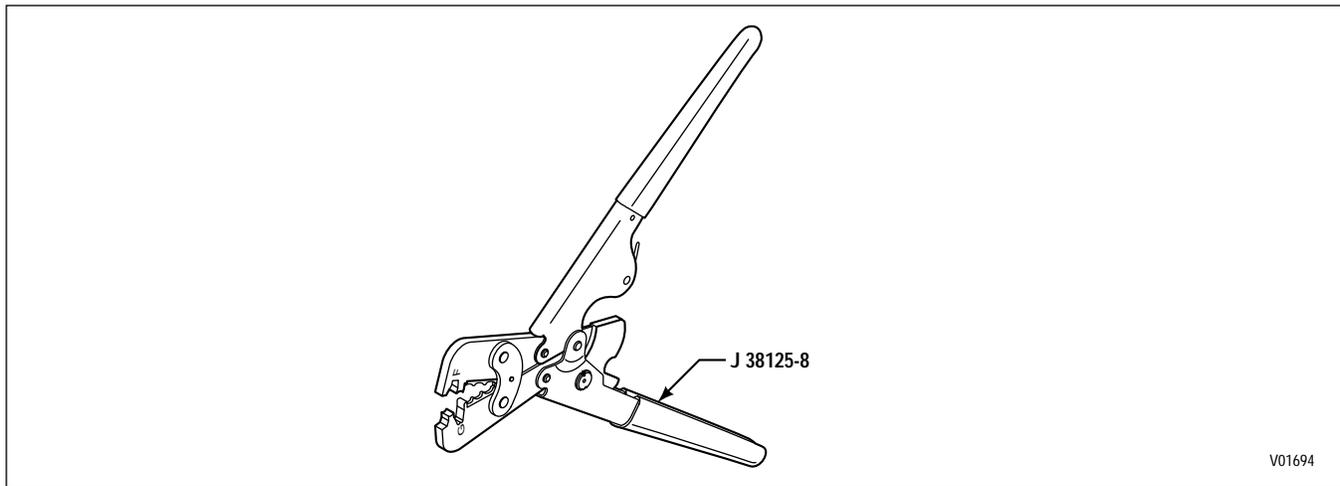

Figure C-11. Crimper J 38125-8
- Crimping Tool for Pre-insulated Crimp J 38125-8 (refer to Figure C-11)